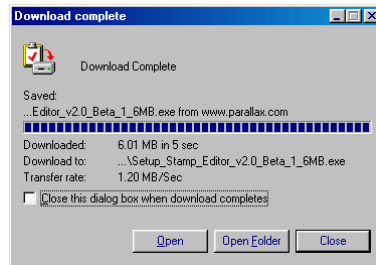

Figure 1-16
- √ If you downloaded the BASIC Stamp Editor Installer from the Internet, click the *Open* button on the Download Complete window shown in Figure 1-16.